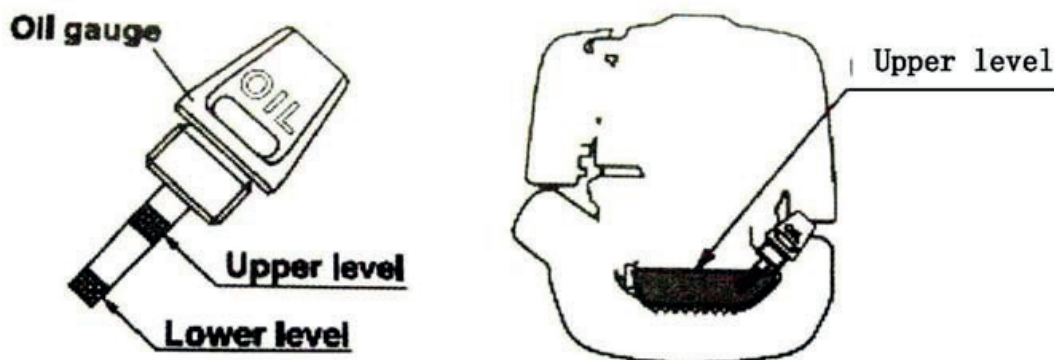

Figure 3
- (b) Adding engine oil. See Figure 3